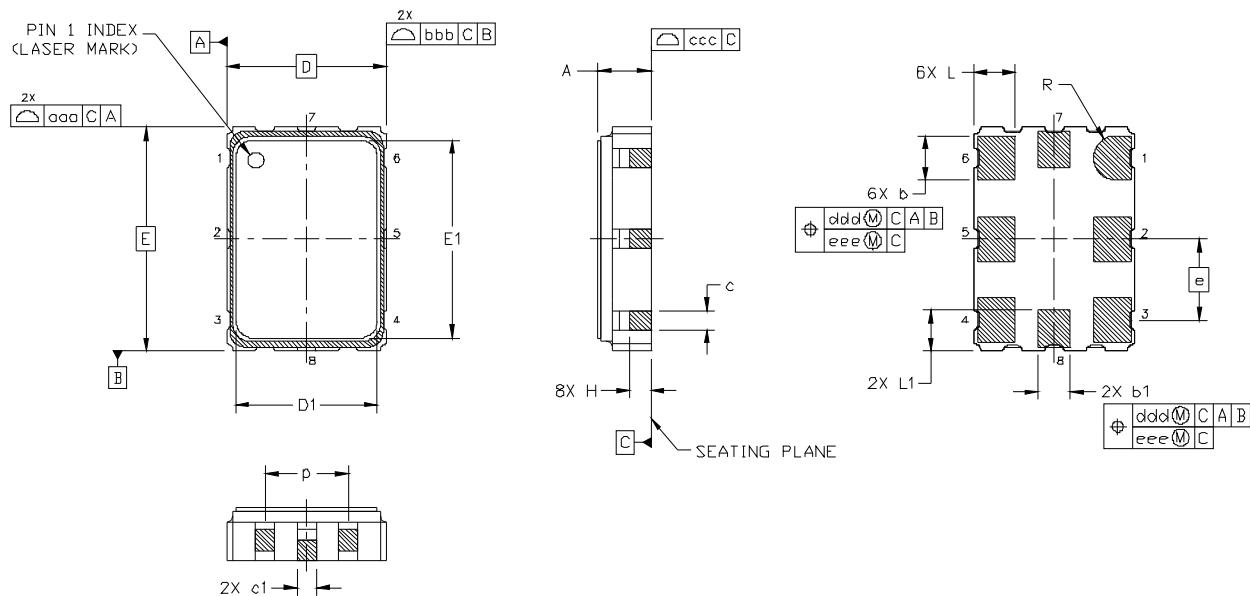

Figure 8. Si570/Si571 Outline Diagram
Figure 8 illustrates the package details for the Si570/Si571. Table 17 lists the values for the dimensions shown in the illustration.
- Updated Figure 8 and Table 17 on page 33 to include production test sidepads. This change is for reference only as the sidepads are raised above the seating plane and do not impact PCB layout.